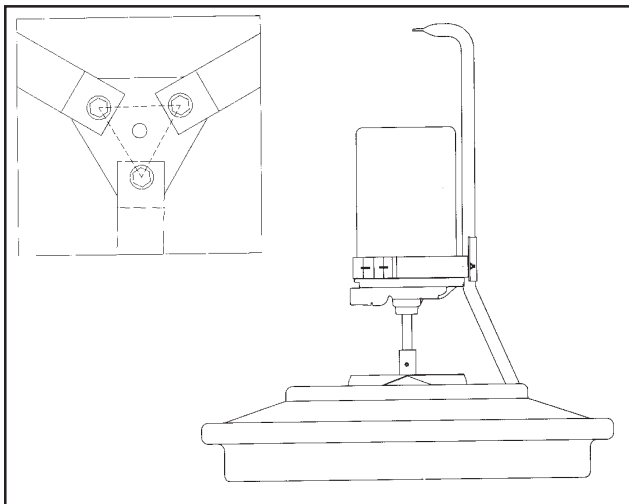

Figure 20
C. Placing power unit in float. - see Figure 20